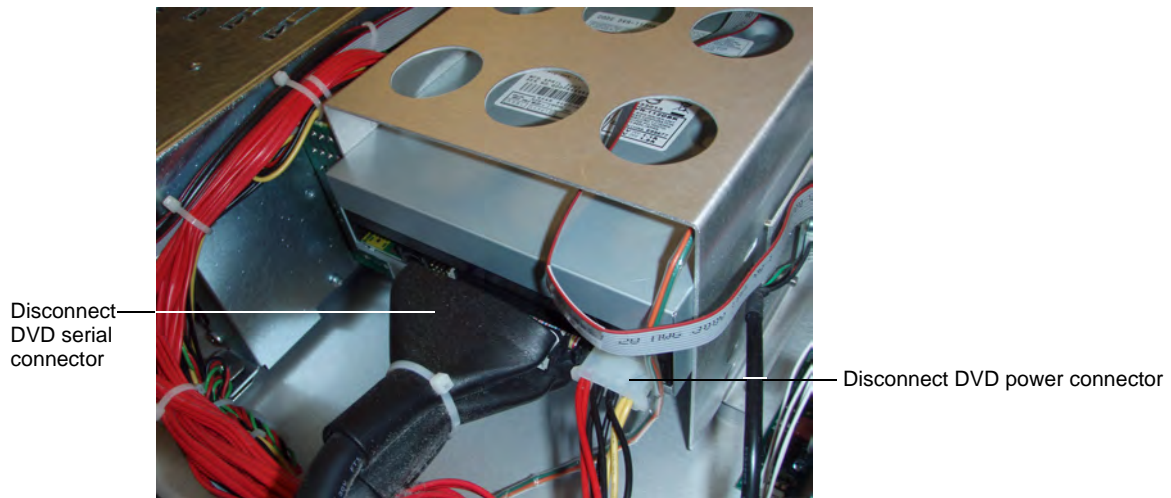

Figure 14 Disconnect Serial and Power Connections
11. Disconnect the serial and power connections to the DVD drive, shown in Figure 14.